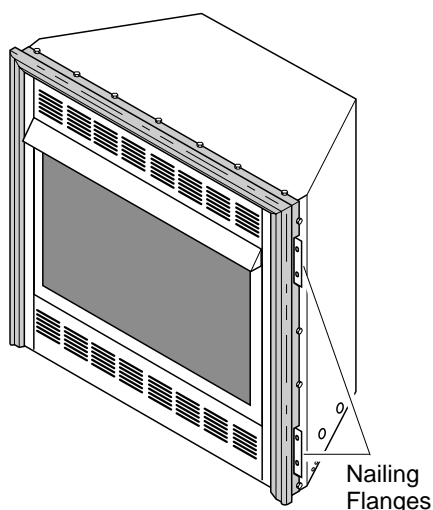

Figure 11 - Location of Nailing Flanges
- Break off nailing flanges (see Figure 11, page 9) with hammer or pliers.